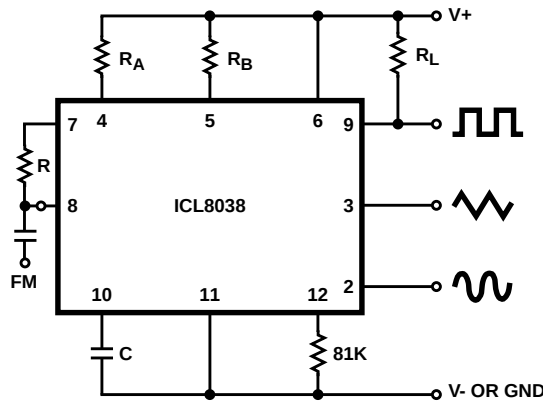

FIGURE 5A. CONNECTIONS FOR FREQUENCY MODULATION
3. $V_{SUPPLY} = 20V$; R_A and $R_B = 10k\Omega$, $f \approx 10kHz$ nominal; can be extended 1000 to 1. See Figures 5A and 5B.
The frequency of the waveform generator is a direct function of the DC voltage at Terminal 8 (measured from V^+). By altering this voltage, frequency modulation is performed. For small deviations (e.g. $\pm 10\%$) the modulating signal can be applied directly to pin 8, merely providing DC decoupling with a capacitor as shown in Figure 5A. An external resistor between pins 7 and 8 is not necessary, but it can be used to increase input impedance from about 8kΩ (pins 7 and 8 connected together), to about $(R + 8\text{k}\Omega)$.